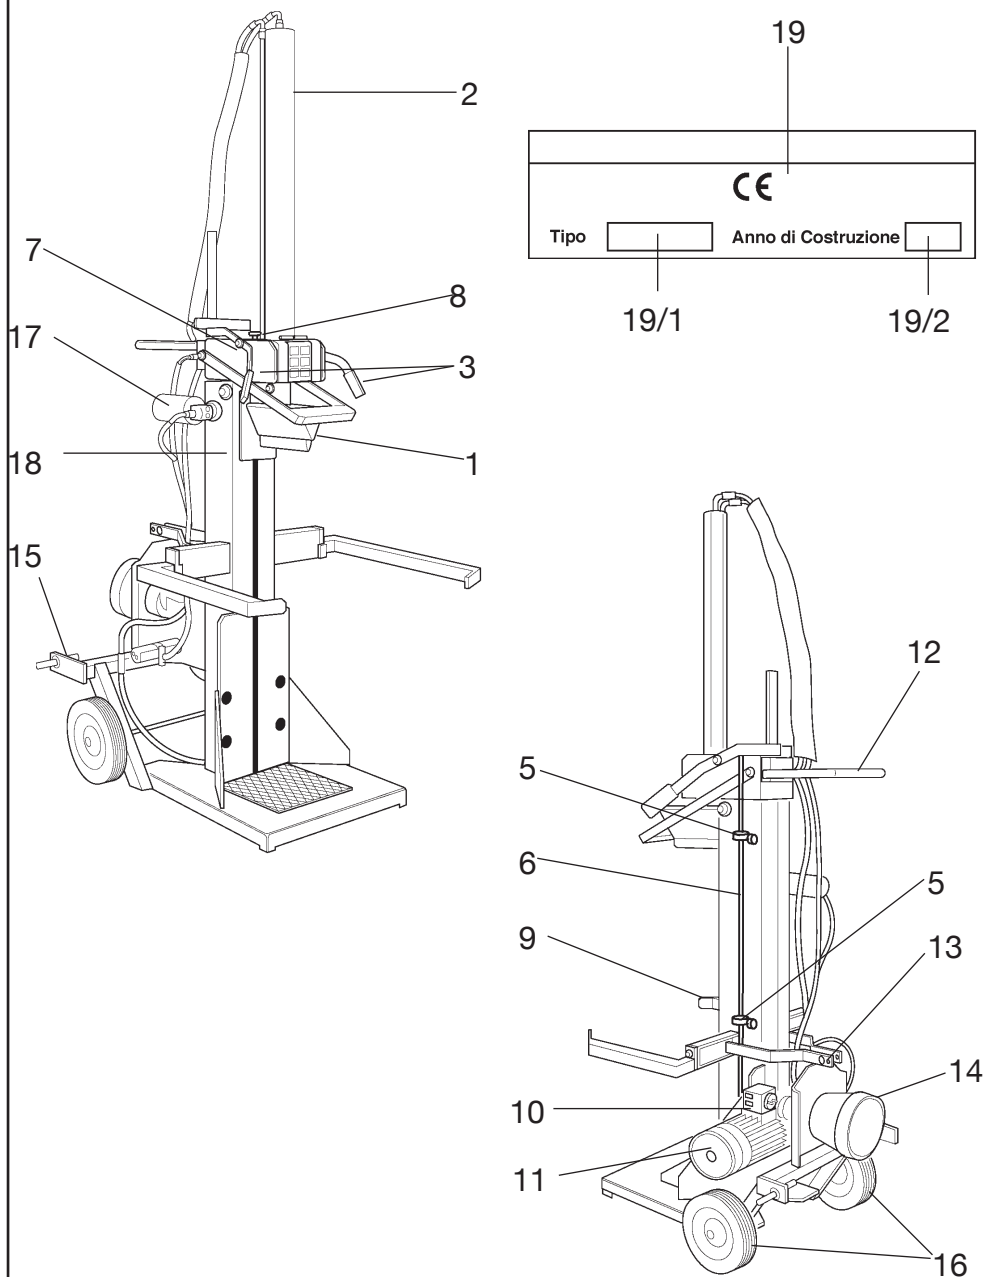

Fig. 1 - Electrically operated Wood-cutter, Mod. 110+PTO with a three-point coupling to the tractor (this is the most complete version).
1.2 DESCRIPTION OF THE WOOD-CUTTER (fig.1)